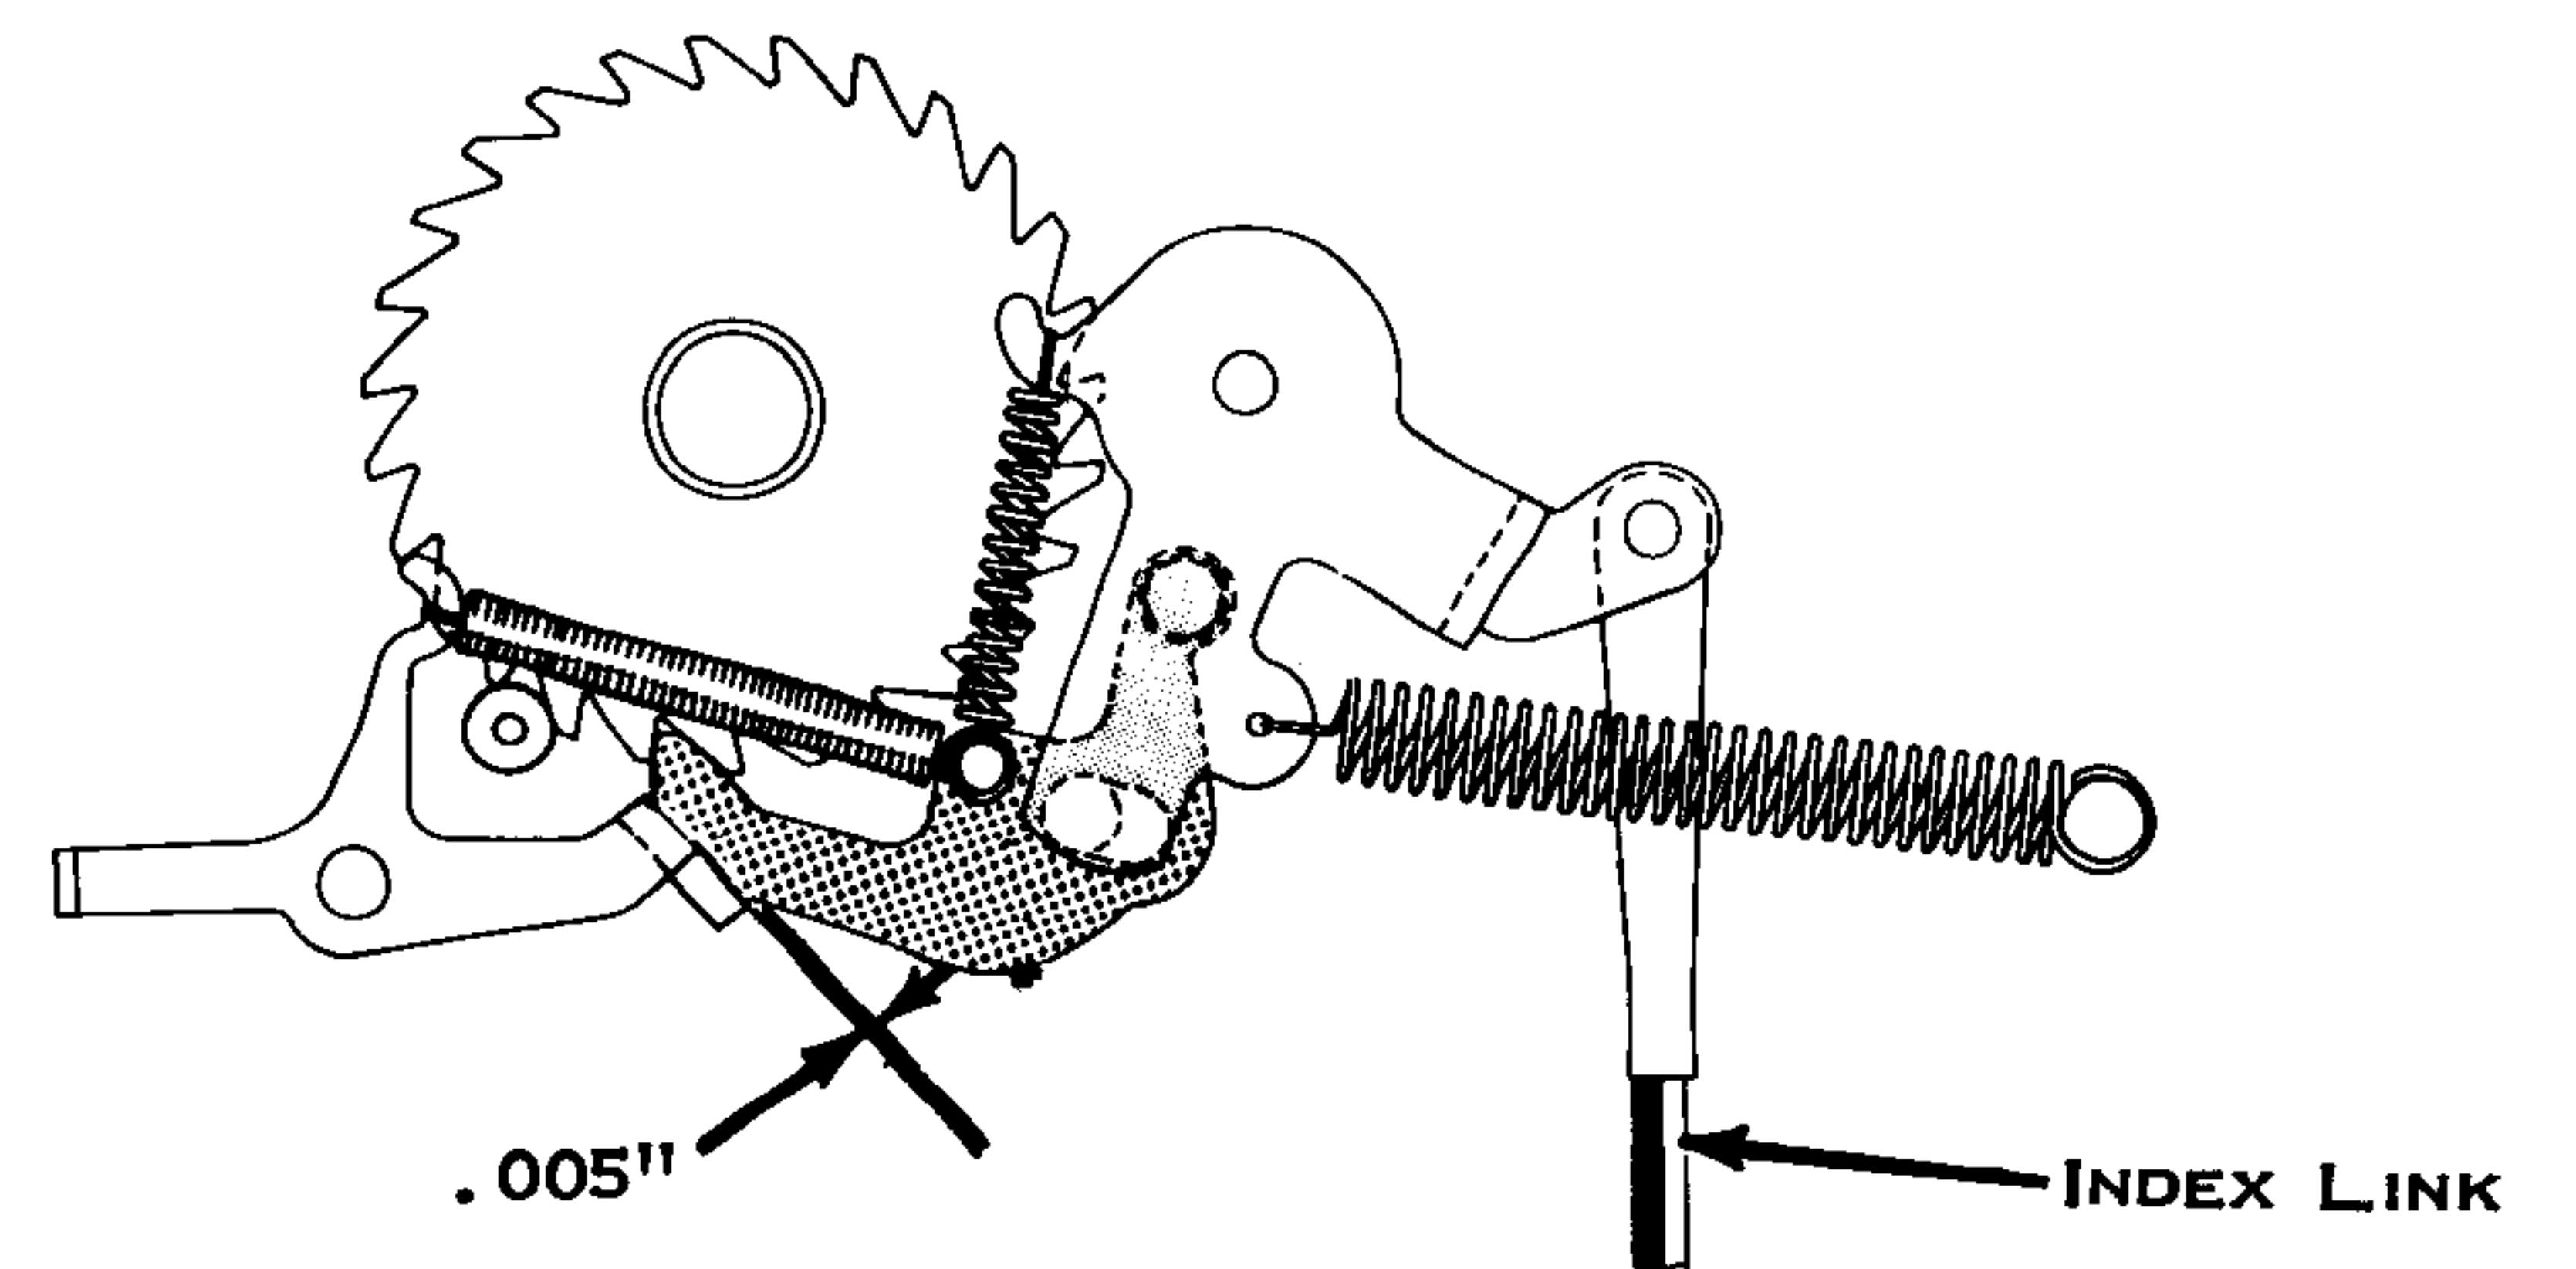

Figure 205. Platen Overthrow
5. Platen Overthrow Stop (Fig. 205) - With the index link pull so that it has moved the platen one full tooth (index selection in single linespace position) adjust the stop to clear the index pawl by .005".